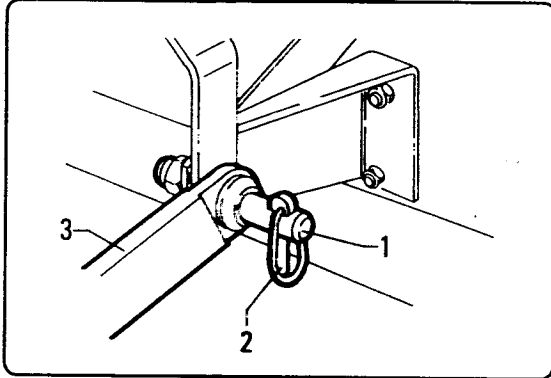

fig. 4.2.1
- Reverse the tractor towards the machine, aligning the tractor lift links with the two side coupling pins "1" fig. 4.2.1.
- Fix them in place by means of the relative safety pins "2" fig. 4.2.1.